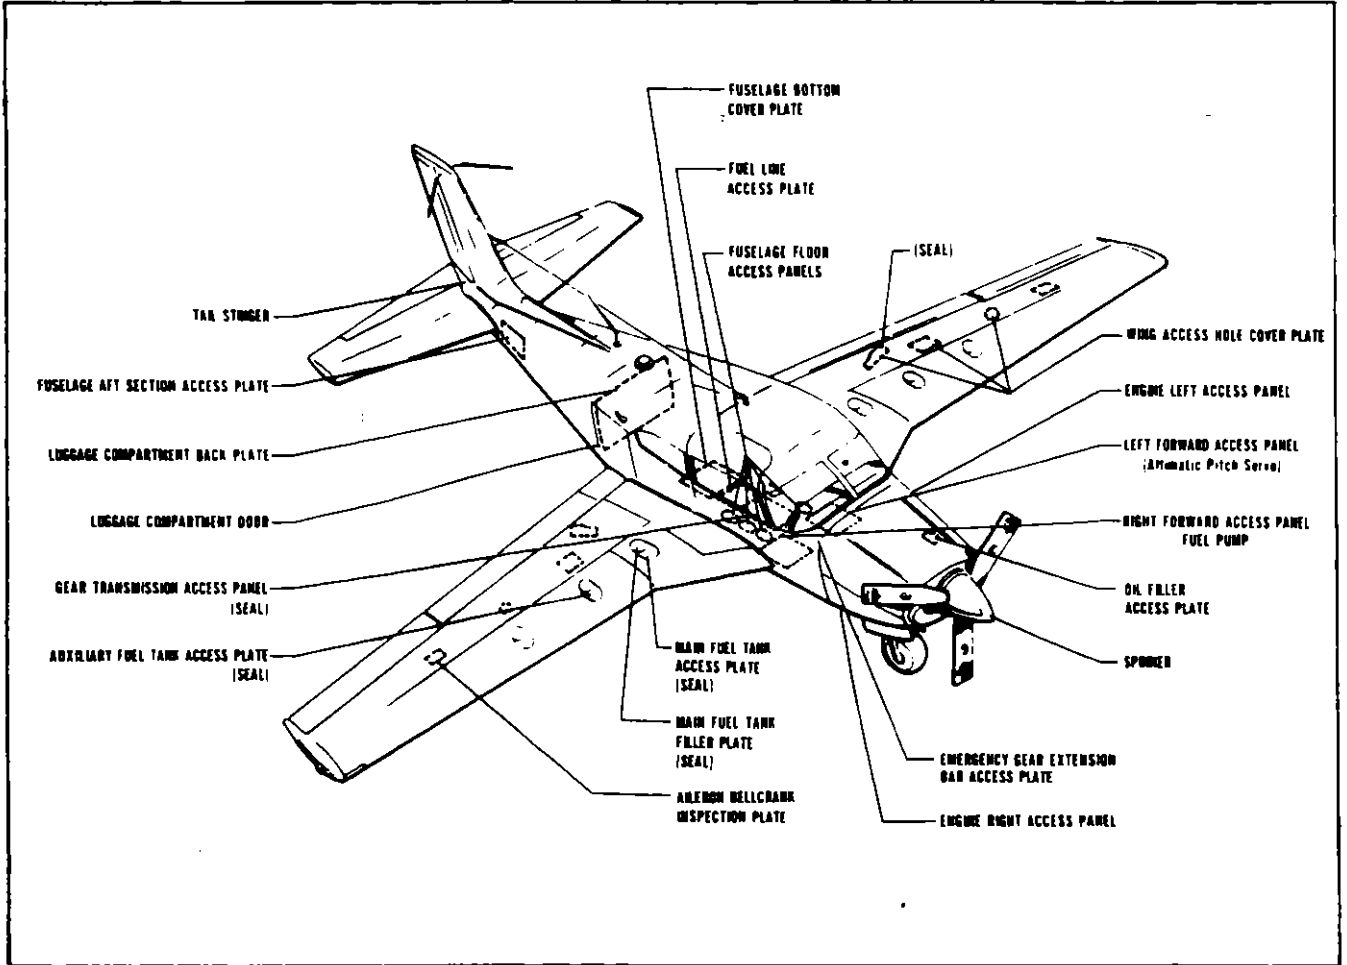

Figure 2-6. Access Panels and Plates
**2-4. Serial Number Plate.** (Refer to Figure 2-6.) The serial number plate on the various PA-24 model aircraft can be found at one of the following locations: On the inside of the baggage compartment door, on the upper right side of the firewall (engine side), on the fuselage adjacent to the left side of the tail skid
**2-5 Access and Inspection Provisions.** The access and inspection provisions for the airplane are shown in Figures 2-6 thru 2-8. The component to be serviced or inspected through each opening is identified in the illustration. All access plates and panels are secured by either metal fasteners or screws. The floor panels may be removed by first removing the desired seats, then sliding the carpet edges from under its retainer strips, lifting the edges and removing the carpet attaching screws. Remove the carpet, thus exposing the floor panel attaching screws. To enter the aft section of the fuselage, remove the lower rear baggage compartment upholstery panel by removing the attaching screws.